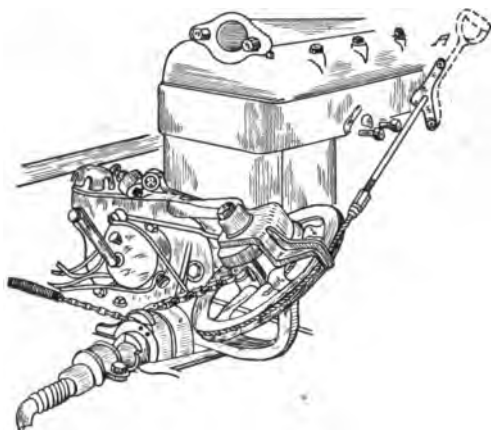

Fig. 7. Boston Mechanical Starter. Much Used on Small Cars
*Mechanical Starters.* A mechanical starter is really only a substitute for the crank, allowing the driver to do his cranking from the seat. That is, it is nothing but a mechanical transmission device by means of which the driver avoids going around to the front of the car and whirling the usual starting crank. Of this form, the Boston, Fig. 7, is typical, this being shown applied to a Ford car. As will be noted, a handle *A* projects from the front of the dash-board, this being connected by a rod and cable to a pulley, another